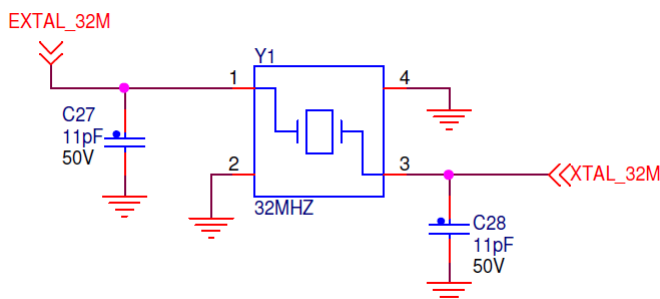

Figure 5. KW40-HRM-RD 32 MHz reference oscillator circuit
- 32 MHz Reference Oscillator - Figure 5 shows the external 32 MHz external crystal Y1. This mounted crystal must meet the specifications outlined in the AN3251 application note. IEEE Std. 802.15.4 requires that the frequency be accurate to less than ± 40 ppm.